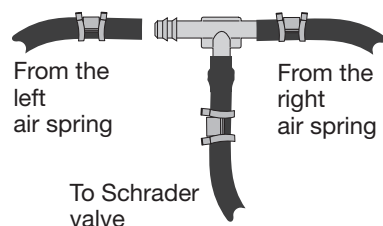
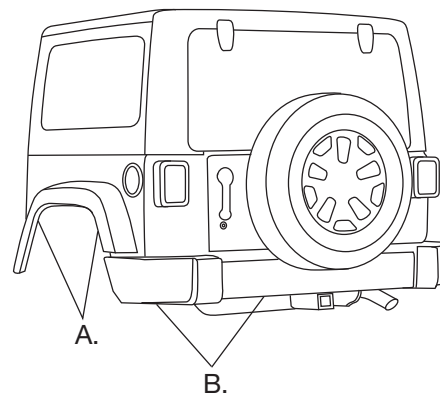

fig. 12
fig. 13
2. Use this procedure (Fig. 12) for all air line connections:
- a. Slide the air line clamp (M) onto the air line (D).
3. Select a location for the Schrader valve (L), ensuring that the valve will be protected and accessible with an air hose (Fig. 13). Determine and cut adequate length of air line (D) to reach from the tee to the Schrader valve or from the air springs to the valve if using a dual-path installation.